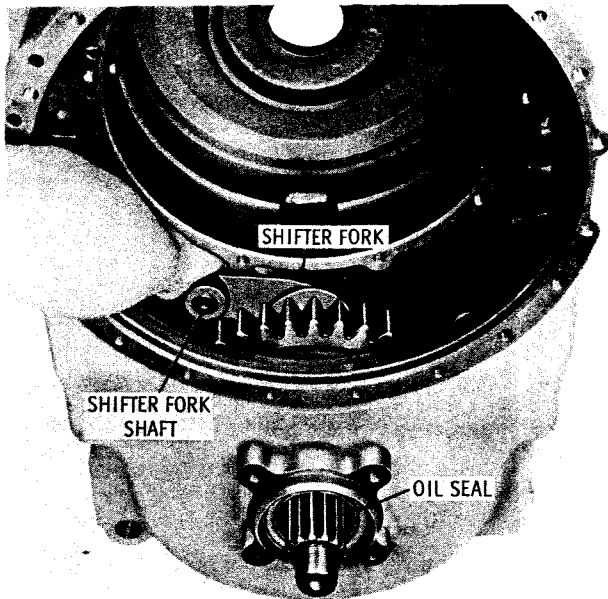

Fig. 7-12. Installing disconnect shifter fork and shaft (-1 models with two-piece output shaft)
(13) Install the new rear output lip-type oil seal, spring-loaded lip first, and press it squarely into the bore until it is lightly seated against the counterbore shoulder (fig. 7-12).
(14) Position the disconnect shifter fork in the groove of the disconnect coupling (fig. 7-12). While holding the fork in position, install the shifter fork shaft, threaded end first, through the oil seal in the front of the housing and fully engage the threads in the shifter fork. Refer to paragraph 3-9c for final adjustment of the shifter fork shaft.
(15) Proceed to paragraph 7-4.
(7) Install the new rear output lip-type oil seal, spring-loaded lip first, and press it squarely into the bore until it is lightly seated against counterbore shoulder (refer to fig. 7-12).
(8) Apply nonhardening sealant onto the smaller outside diameter of plug 8 (fold-out 17,A) and install the plug into the front output orifice. Press the plug into the bore until its flange is firmly seated against the front surface of the housing.
(9) If shifter shaft hole plug 16 was removed, apply nonhardening sealant onto the outside diameter of the plug. Install the plug, closed end first, and seat it against the shoulder in the housing bore.